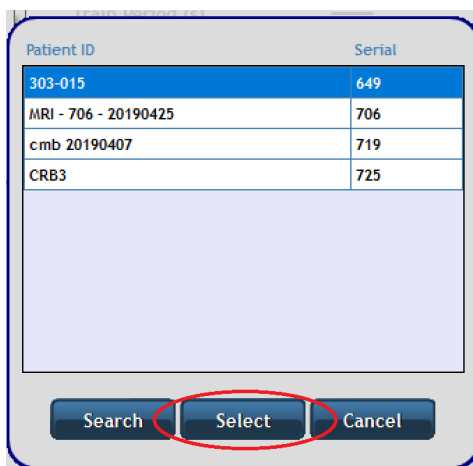

Figure 4.6: Select Button
4. A pop-up menu will appear. Select the IPG whose Serial # matches the one on the patient's Patient Identification Card by clicking on their specific IPG and then pressing the **Select** button (circled in Figure 4.6).